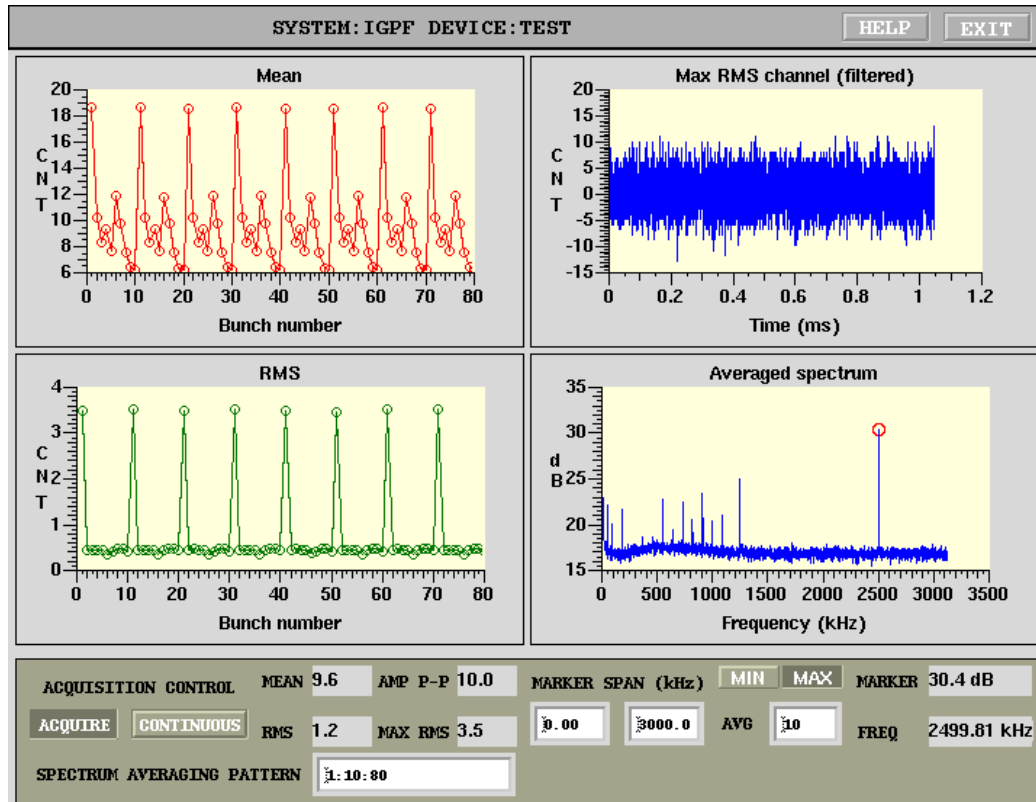

Figure 12: Waveforms panel
**Acquire** Acquisition trigger pushbutton for internal trigger. This control is no longer actively used - see the waveform panel (Fig. 12).
A set of **IOC** subroutines postprocesses the data in the real-time and provides four concise plots displayed in the waveform panel shown in Figure 12. The four plots are: bunch-by-bunch mean and root mean square (**RMS**) of bunch oscillations, time-domain signal of a bunch with the largest **RMS**. The last plot is obtained by performing the fast Fourier transform (**FFT**) on each of the bunches (specified by a selection pattern) and quadratically averaging the resulting spectra. This plot aliases all coupled-bunch eigenmodes to a frequency span from DC to  $\omega_{\text{rev}}/2$ . Such a spectrum allows the operator to very quickly check how well the system damps the coupled-bunch motion.